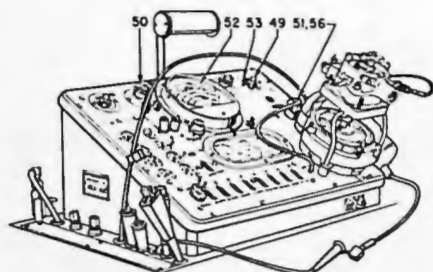

Fig. 9
- 49 Set the spark gap selector at 120 lbs. compression (Fig. 9).
- 50 Set the speed at 500 R.P.M. (Fig. 9).
- 52 Any reading above 1/2 milliamp is satisfactory for this speed (Fig. 9).
- 53 Set spark gap selector at 60 lbs. compression (Fig. 9).